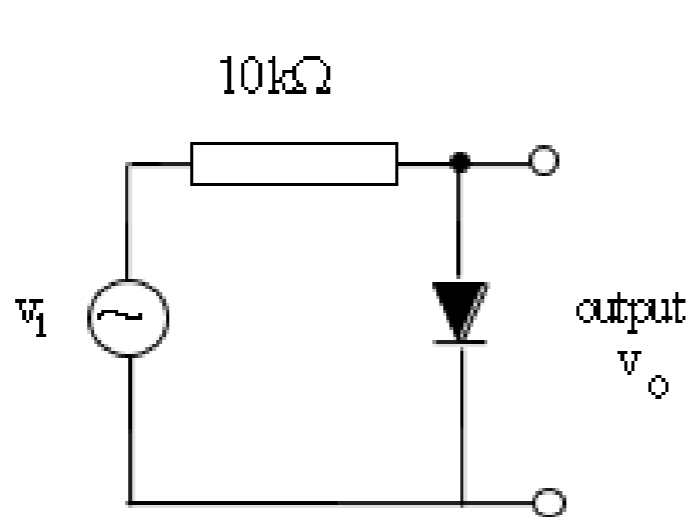

Fig. 1a: Clipper circuit
- Diodes may be used in a number of ways to change the shape or form of a signal. For example, the diode clipper of Fig. 1a may be used to limit the amplitude of an ac signal.
- a. Set up the circuit of Fig. 1a. Use the signal generator at 1 kHz to provide an input sinusoidal signal at $8 V_{pp}$. Display both v_i and v_o on the oscilloscope (use dc coupling). The output v_o should be as shown in Fig 1b.
- a. Replace the $10\ \text{k}\Omega$ resistor in Fig. 1a with a $10\ \mu\text{F}$ capacitor (Fig. 3); again use dc coupling on the oscilloscope coupling.